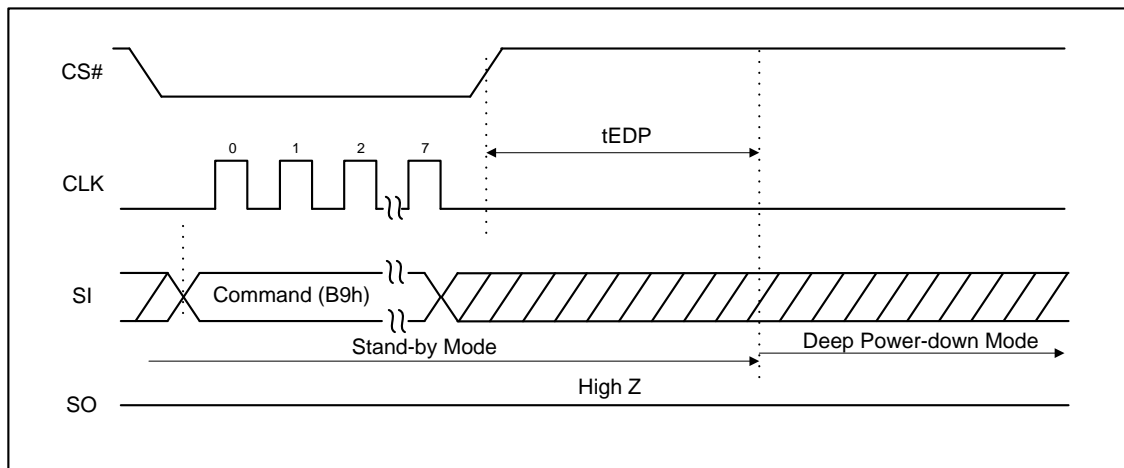

Figure 22: Deep Power-Down (DP) Command Sequence
8.2 Deep Power-Down (DP)
The command sequence is shown in Figure 22. The Deep Power-Down mode can only be entered by executing the Deep Power-Down (DP) command. As a result, the device consumption drops to I_{DPD} . It can also be used as a Software protection mechanism, while the device is not in active use, as in this mode, the device ignores all commands except the Release From Deep Power-Down (RDP) command.